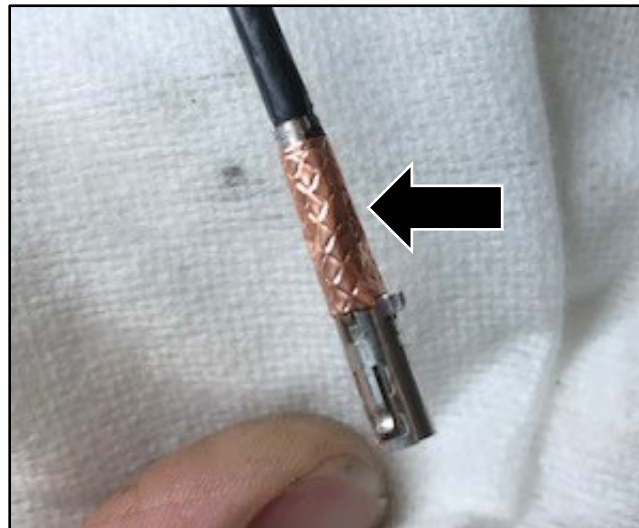

Figure 3
8. Install copper tape to the area shown (refer to Figure 3).